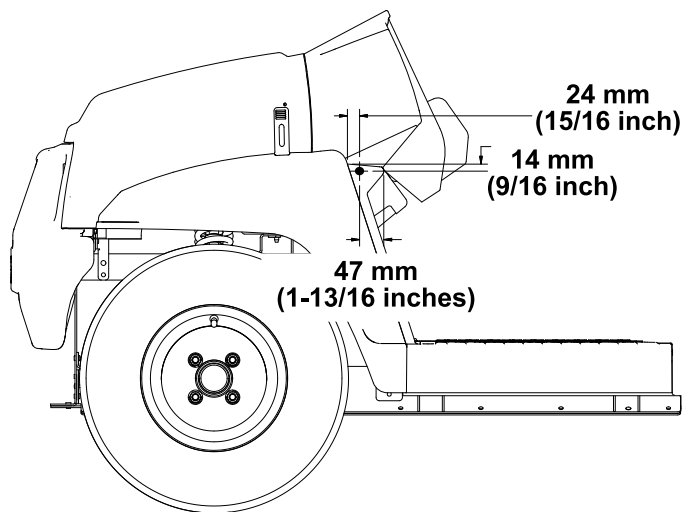

Figure 2
2. Using the dimensions shown in Figure 2, drill 1 hole (5/16 inch) into the outside of the footboard on the left and right sides of the machine.